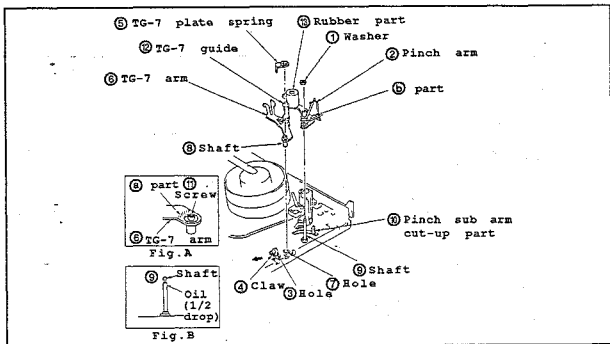

Fig.II-14
• Disassembling (Fig.II-14)
- (1) Set the unloading state.
- (2) To take off the pinch arm ②, remove the washer ①.
- (3) To detach the TG-7 plate spring ⑤, bend the claw ④ of hole ③ by using a thin screwdriver or equivalent.
- (4) Detach the TG-7 arm.
• Reassembling (Fig.II-14)
- (1) Apply the grease on the inside and the bottom surface of the hole ⑦.
- (2) Insert the shaft ⑥ of TG-7 arm ⑥ to the hole ⑦.
- (3) Apply the grease on the shadowed area ③. (Fig.A)
- (4) Insert the TG-7 plate spring ⑤ to the hole ③.